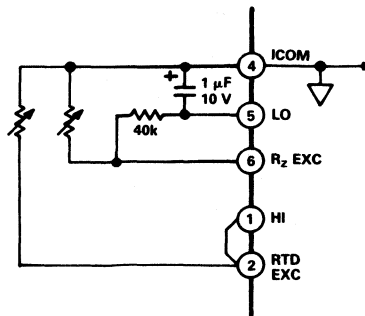

Figure 4. Differential RTD Measurement
**Other RTD Measurements.** The 1B41 can be configured for making differential measurements using 2-wire RTDs. As shown in Figure 4, the two RTDs are connected between ICOM and HI and LO. The current sources at  $R_Z \text{ EXC}$  and RTD EXC create a differential signal across HI and LO that is proportional to the difference in resistance of the two RTDs. The following equation shows how to calculate  $R_G$  for applications where hardware linearization is not desired.